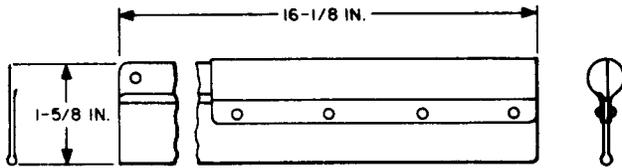

Fig. 26—KS-14553 Card Inserter Tool
2.28 **KS-14553**: The KS-14553 card inserter tool (Fig. 26) is used to insert single-coded cards in 1-type translators.